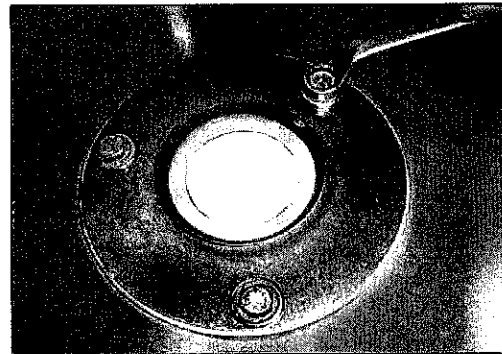

fig. 17
- Loosen the three screws from the inside of the outer drum whilst another person holds the outer drum separator secure from outside the back of the machine. (*fig. 17*).